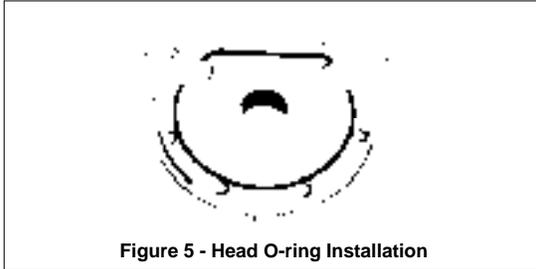

Figure 5 - Head O-ring Installation
- Install a new head O-ring (72) in the groove on the inside face of the head (20). Lay the O-ring flat and start in on one side of the groove, stretching ahead with the fingers, as shown in Figure 5.